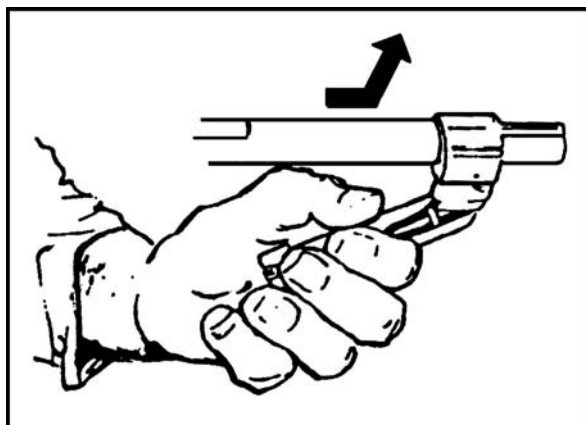

Figure 6. Bolt assembly and operating rod being separated.
- (8) Relax your grip, allowing the bolt to rotate slowly.
- (9) Grasp the bolt and operating rod with both hands. The bolt should be on the bottom, facing away from your body.
- (10) Disengage the bolt from the operating rod by pulling forward on the operating handle and lifting upward (Figure 6).